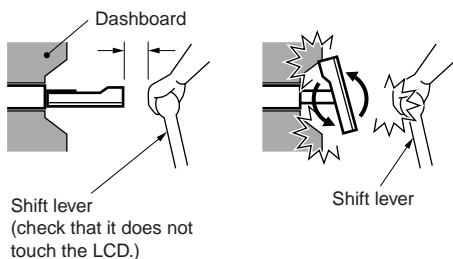

Figure 2
2. This model is used with the LCD panel slid forwards (shell loading system). On some types of cars, the LCD panel may touch the dashboard or shift lever, in which case it cannot be installed. Check that the set will not hamper operation of the shift lever before choosing the place of installation. (Figure 2)